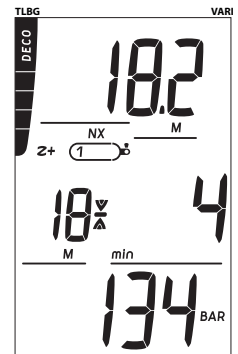

Fig. 67 - DV2 MAIN
- > Once within 10 FT (3 M) of and below the required Stop Depth, the Stop icon (both Arrows with Stop Bar) will be displayed solid (Fig. 67).